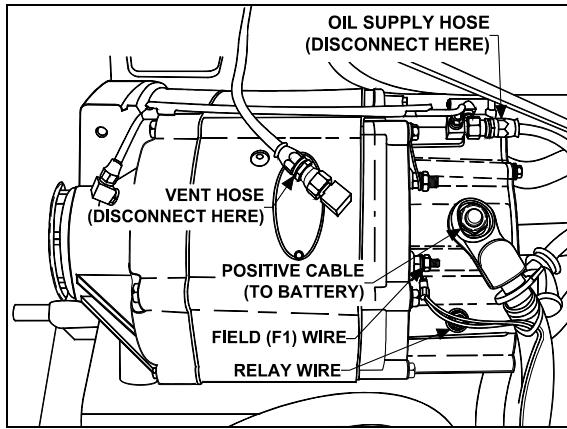
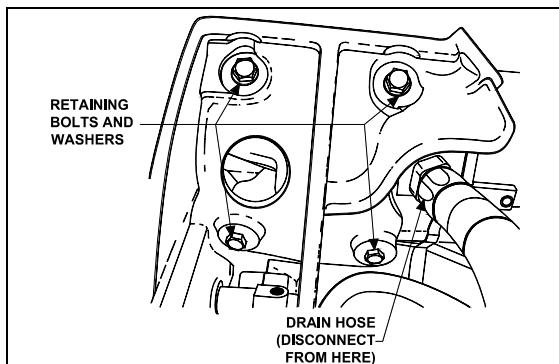

FIGURE 38: ALTERNATOR (HOSES AND WIRES) 06341
FIGURE 39: ALTERNATOR RETAINING BOLTS AND WASHERS 06350
- Scratch off protective sealer from electrical connections (relay, field and positive terminals). Refer to figure 38.
- Disconnect wire #25 from the relay terminal, wire #107 from the field "F1" terminal and disconnect battery cable from the positive "+" terminal on the diode end cover. Tag wires removed to ease identification at time of installation. Refer to figure 38.
- Disconnect oil supply line and vent hose from top of alternator (Fig. 38) and tape lines to prevent entry of foreign matter. Disconnect oil drain hose from bottom of alternator (Fig. 39) and tape line to prevent entry of foreign matter.
- Remove the four bolts and lock washer retaining alternator (refer to fig. 39).